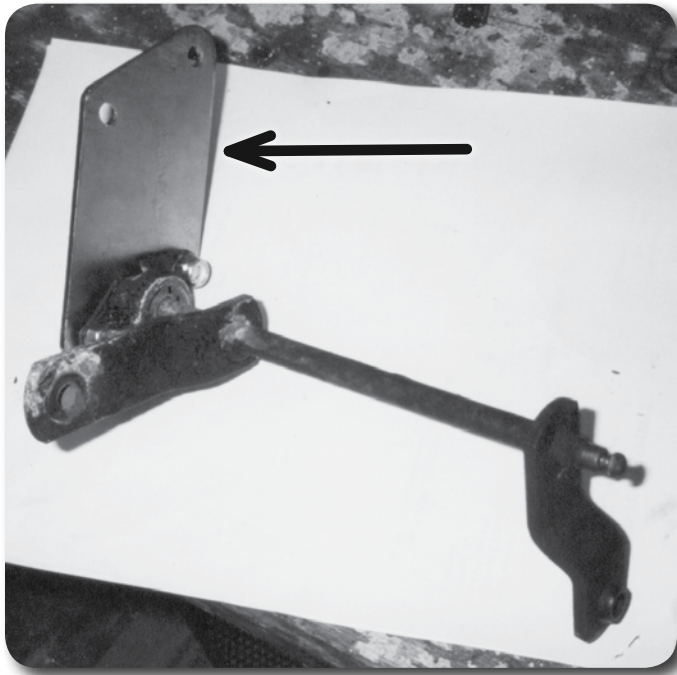

Figure 7
37. Attach the pivot assembly to the relocation bracket using two 1/4" x 1/2" bolts and lock nuts. The pivot rod runs through the large hole in the bracket **Figure 7**.